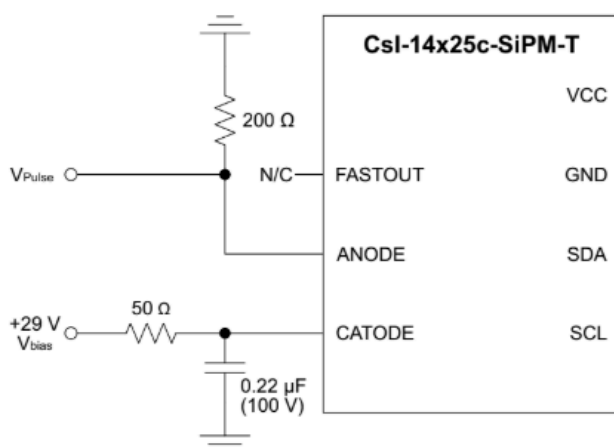

Figure 4: Diagram for the CsI detector circuit.
3. The detector diagram (Figure 4) shows the pins you will need. You will use two connections: CATHODE (bias voltage) and ANODE (signal output).